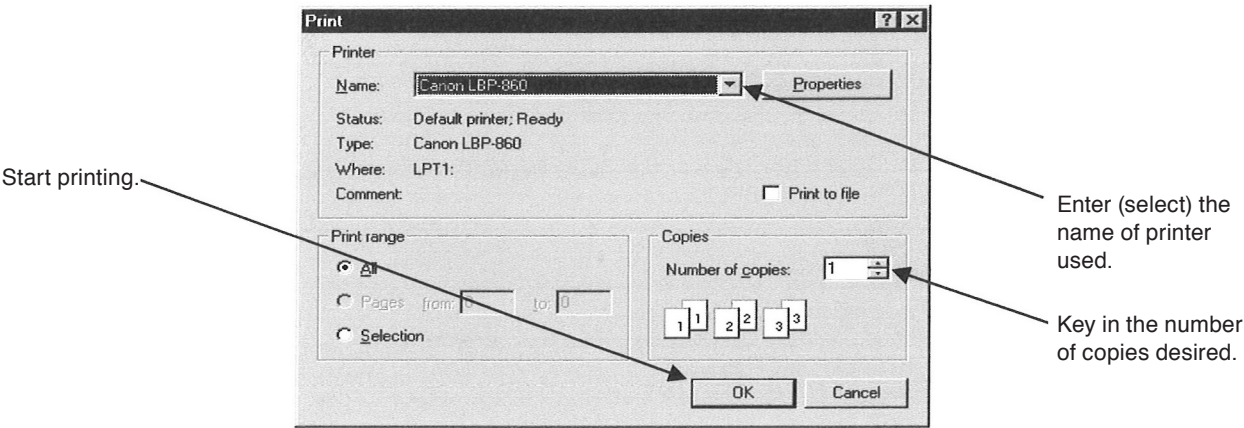

Fig.68
- ① Click on "File (F)" at top-level menu of the screen, select "Print (P)" and click on again. Make sure of the data at "Database Screen" in advance.
- ② On setting the window like the one shown in Fig. 68, type in the name of printer used, the number of copies desired along with other factors required, and click on "OK". With this operation, you can obtain a hard copy of the list of parameters.